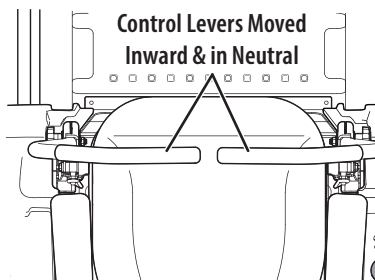

Figure 25
- Move the RH and LH drive control levers inward in the neutral position (Figure 25).